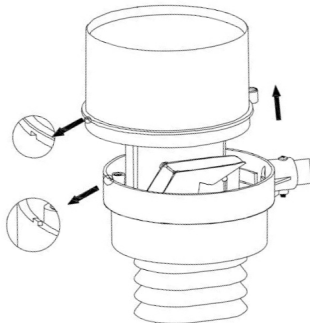

Figure 7
2. Separate the cone from the base by turning it counter-clockwise. (figure 7)